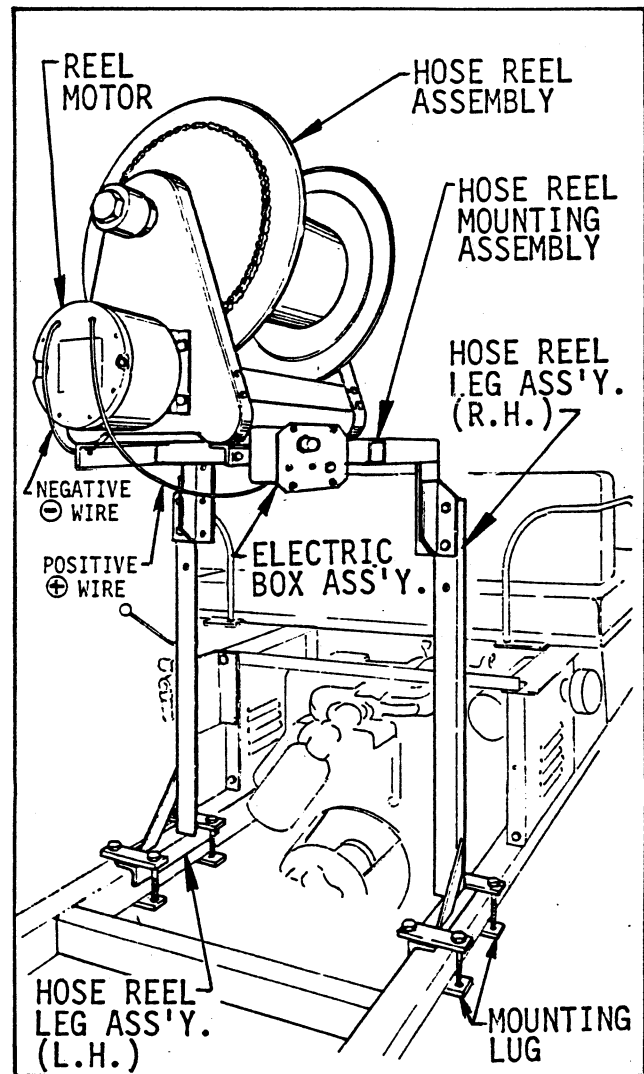

FIG. 1
■ Install the two Leg Assemblies onto the Vehicle Frame as shown in FIG. 1, using eight mounting lugs, eight 3/8 x 4-1/2" cap screws and lock nuts. Tighten the fasteners to "just snug" to permit any necessary adjustments.
(FIG. 1 ILLUSTRATES THE HOSE REEL KIT INSTALLED ON THE MULTI-PRO 5200.)